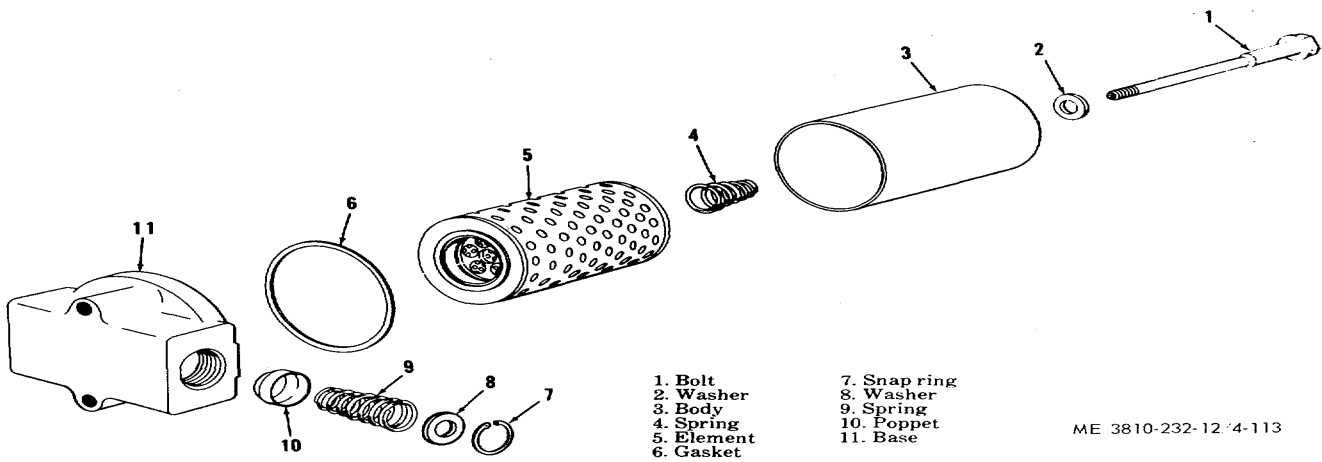

Figure 4-113. Hydraulic oil filter, disassembly and reassembly (model 2385).
(2) Disassemble hydraulic oil filter as illustrated in figure 4-113.